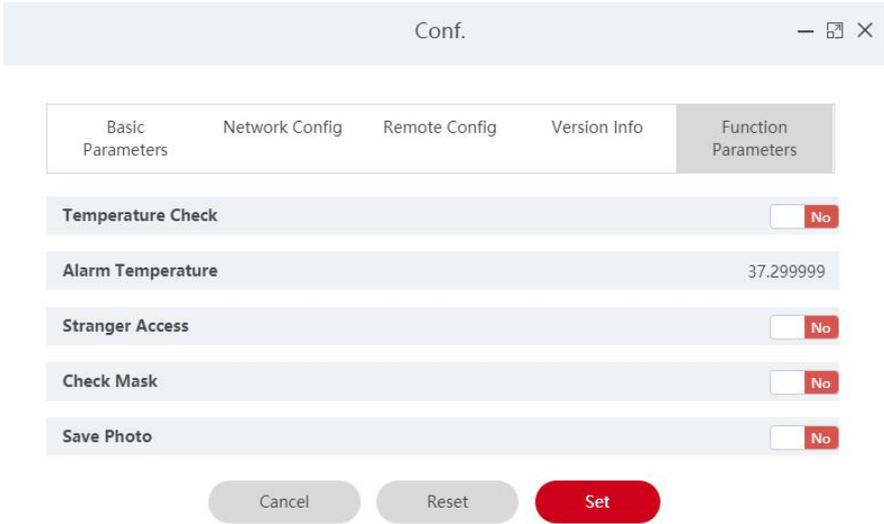

Figure 5-21
3. click "Set" to complete function parameter configuration, as shown in Figure 5-21 below.